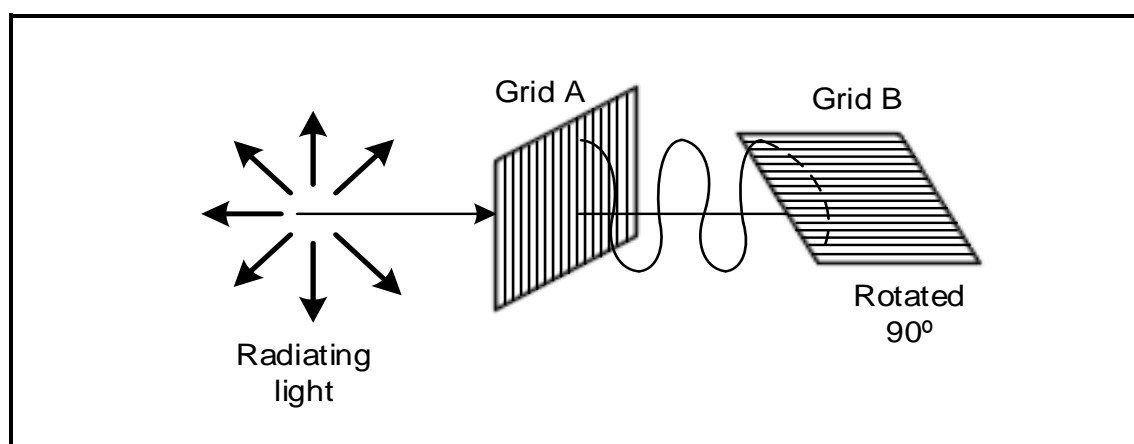

FIGURE 5.2: POLARISING GRIDS
5.2 Refer to FIGURE 5.2 below and answer the questions that follow.